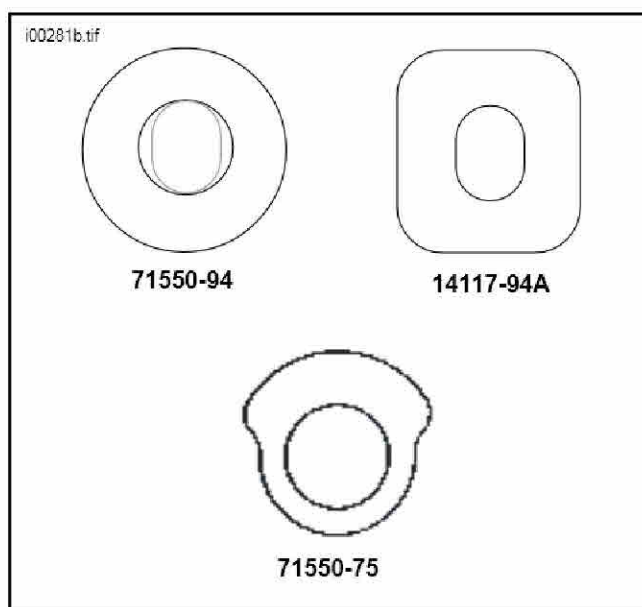

Figure 3A. Ignition Switch Labels
- On FXR and XL models, see Figure 3A. Trim off "flats" from new round ignition switch label, Part No. 71550-94 (same style label as original), to make center hole into a perfect circle. This will allow you to rotate the label so that the new switch key positions will properly match up with the label indications. This is required since the new switch key positions are rotated 30° clockwise from the original flat key switch key positions. Install new label. On FXD models, reuse original rectangular ignition switch label.
3. See Figure 3A. Install new ignition switch label, Part No. 71550-75, noting that label should be in a position that is rotated 30° clockwise from position of original switch label. This is required since the new switch key positions are rotated 30° clockwise from the original flat key switch key positions.
2. See Figure 3A. Trim off "flats" on new round ignition switch label, Part No. 71550-94, to make center hole into a perfect circle. This will allow you to rotate the label so that the new switch key positions will properly match up with the label indications. This is required since the new switch key positions are rotated 30° clockwise from the original flat key switch key positions. Install new label.